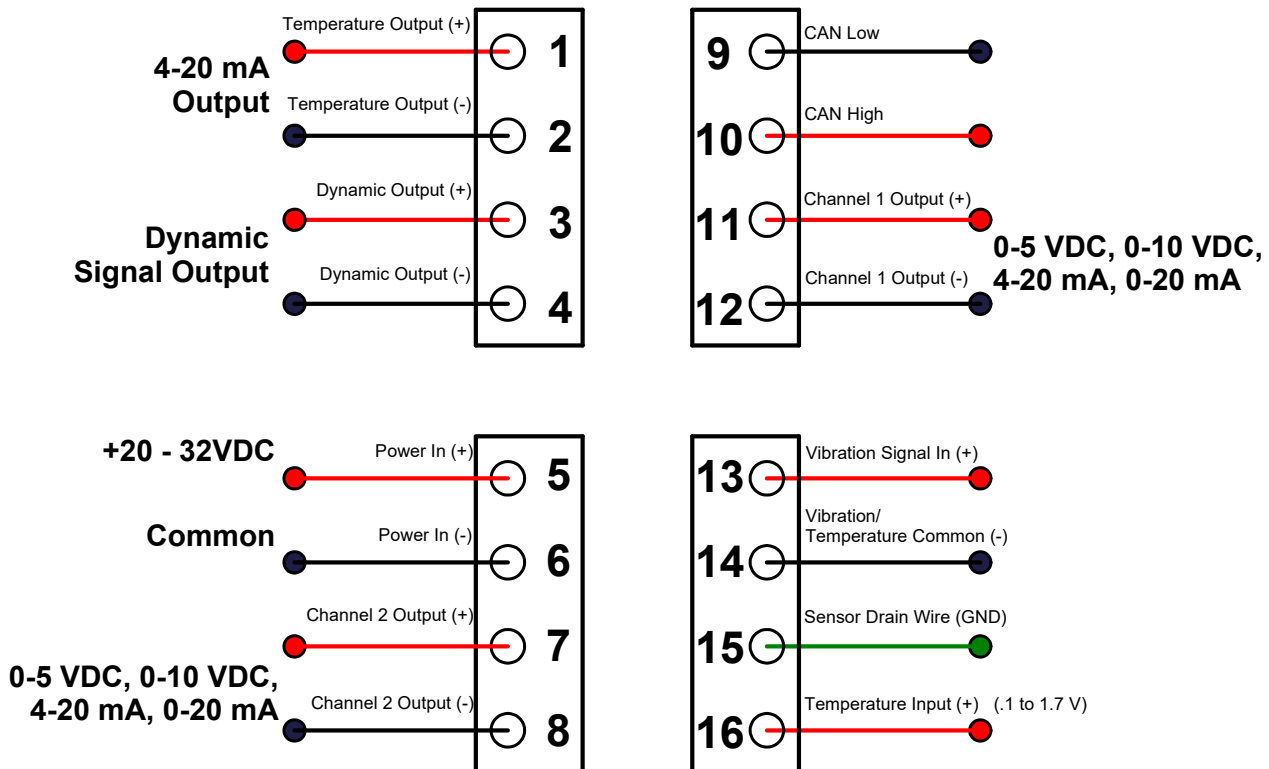

Figure 1. Signal Conditioner Electrical Wiring Diagram for Two Channel IEPE Accelerometer Input, with Temperature
2. For single channel accelerometer input connection, wire the sensor leads to 13(+), 14(-), and 15(shield drain wire) as shown in Figure 1. If using a TA series sensor, the temperature out lead is attached to terminal 16.